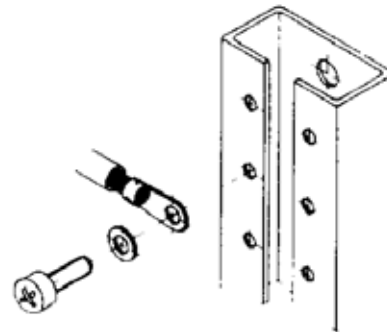

Fig. 37 Protective conductor connection at a vertical structural C-section
- To the vertical section located at front right (see fig. 37) with a screw M6.